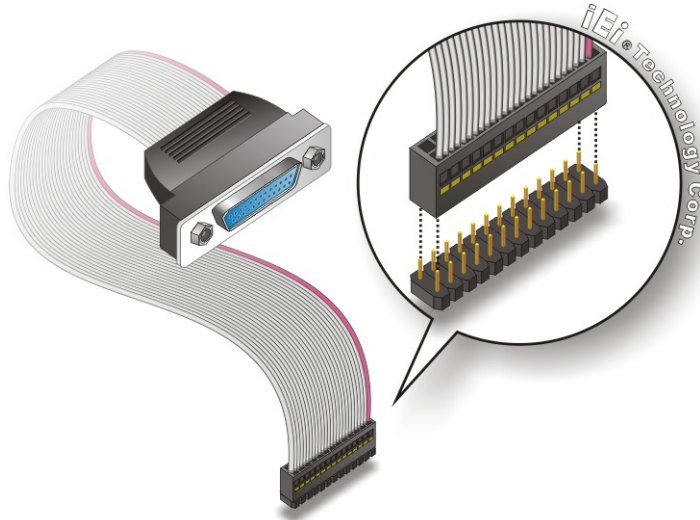

Figure 4-19: LPT Cable Connection
Step 3: Insert the cable connectors Once the cable connector is properly aligned with the 26-pin box-header connector on the WAFER-945GSE3, connect the cable connector to the on-board connector. See Figure 4-19.